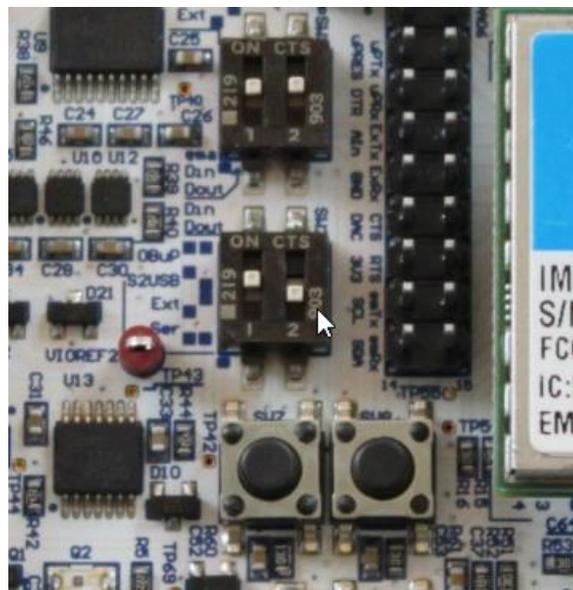

Figure 15
3. Direct ema's modem UART signals (DIN/DOU) to the S2USB port using dip switch SW2, by setting it to the S2USB mode as shown in Figure 15.